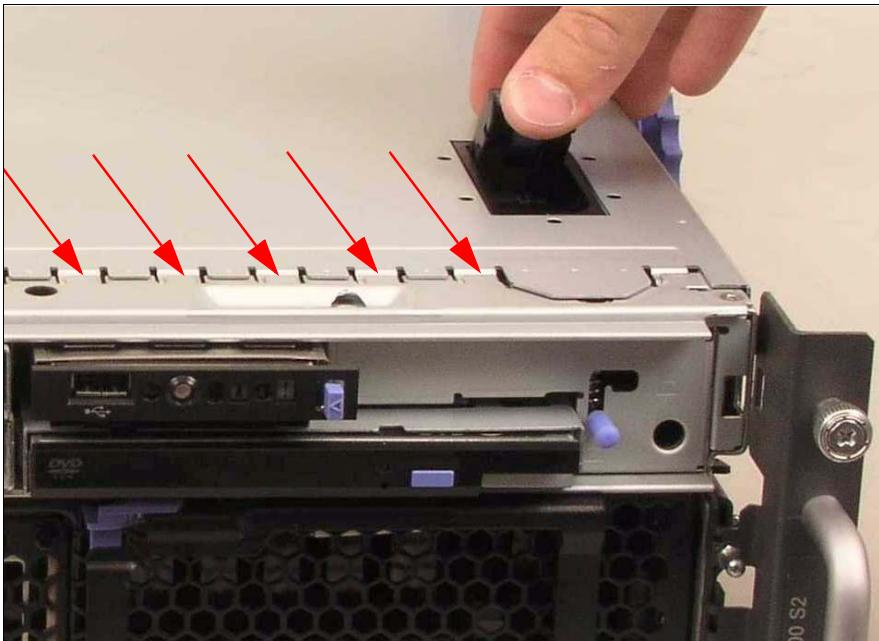

Figure 23: Mounting the housing cover
- ▶ Place the cover-release latch in the open (up) position (see figure 23).
- ▶ Insert the bottom tabs of the top cover into the matching slots in the server chassis (see arrows in figure 23).